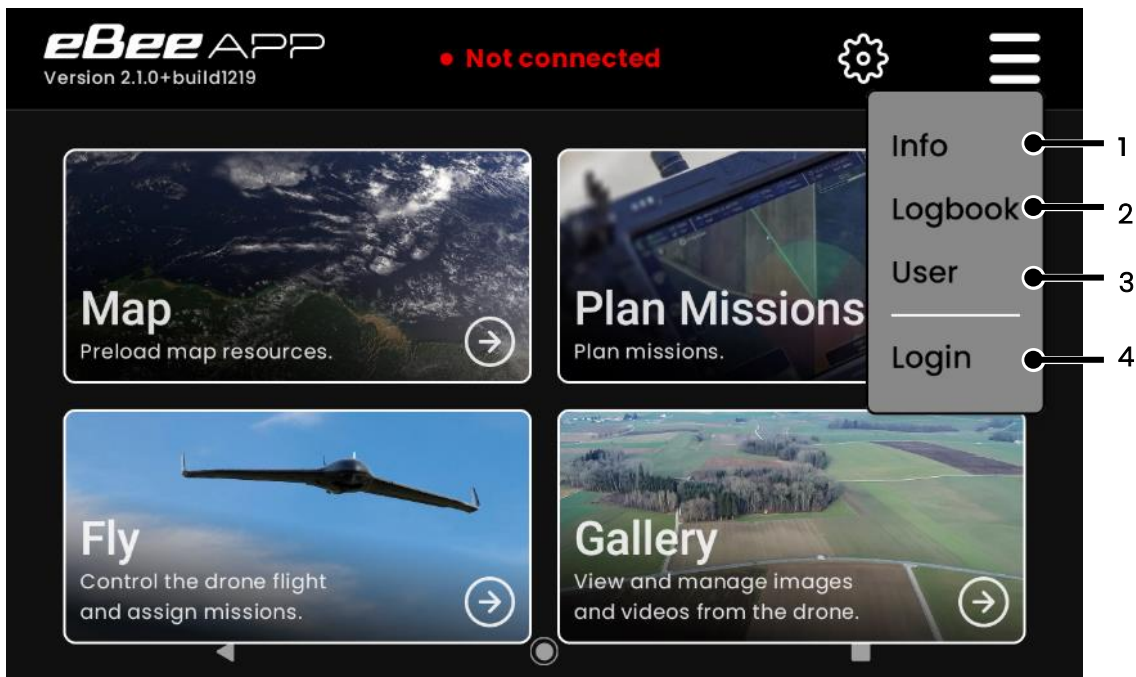

Figure 3-116 Information menu description
To log in into your account, from the *Home* screen, press *Login* (4) from Figure 3-116. This opens the default internet browser of the device on [account.sensefly.com](https://account.sensefly.com). Enter your credentials and you should be brought back to the application. To logout, open the same menu and press *logout*.